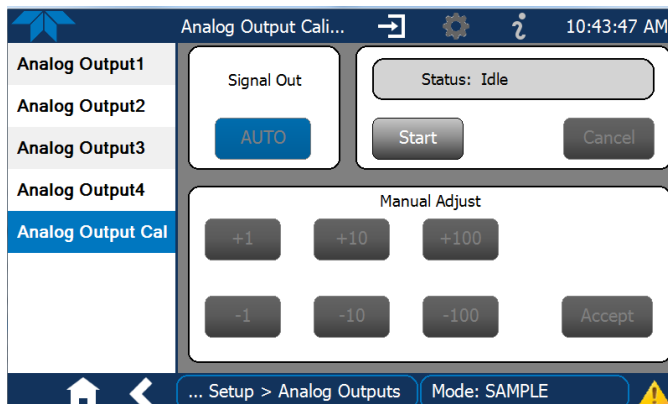

Figure 2-34. Analog Outputs Group Calibration Screen
- AUTO for group calibration (Figure 2-34) of the analog outputs (cannot be selected when Current is selected for the Range)